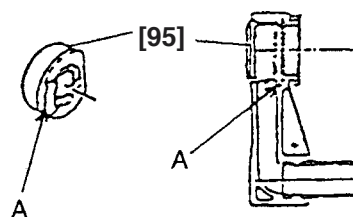

Fig. 20
(3) When mounting the Nozzle Seal [96], ensure without fail that the section marked "A" is properly aligned with and fitted into the groove on the nozzle, as indicated in Fig. 20.